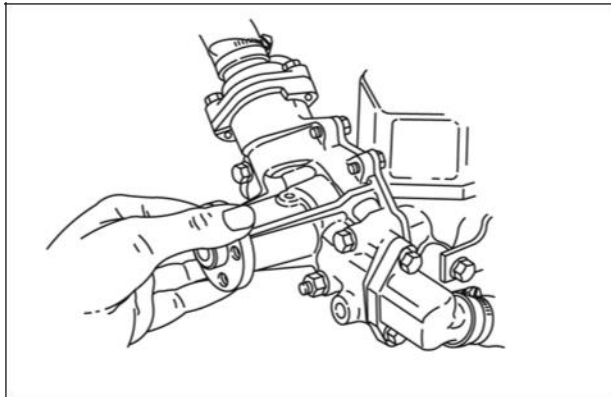

Figure 7
3. Check water pump bearings by rotating pulley flange by hand (Figure 7). Make sure pulley rotates smoothly.